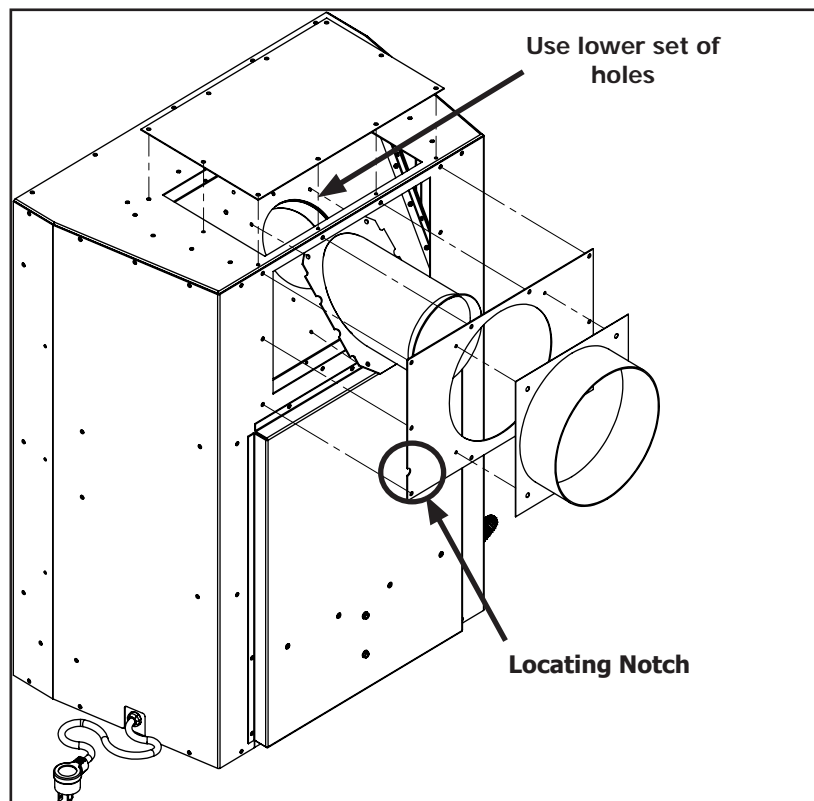

Figure 25: Vent Conversion - Step 2
Step 2: Switch the removed parts around as shown in Figure 25 and re-install all 28 screws. To correctly install the base plate keep the locating notch on each side at the bottom. Also note the exhaust spigot uses a lower set of holes when setup as a rear vent.